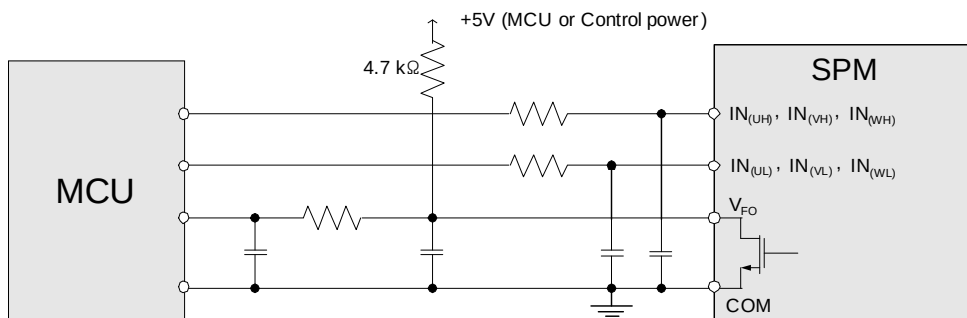

Figure 14. Recommended CPU I/O Interface Circuit
15. V_{F0} output is open-drain type. This signal line should be pulled up to the positive side of the MCU or control power supply with a resistor that makes I_{F0} up to 2 mA. Please refer to Figure 14.